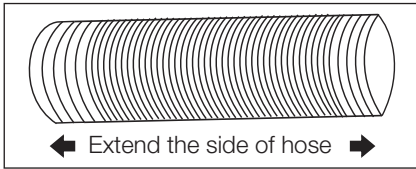
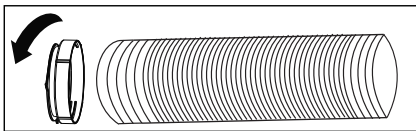

Fig. 4
Fig. 5
2. Extend either side of the hose (Fig. 4) and screw the hose to adaptor A (Fig 5).